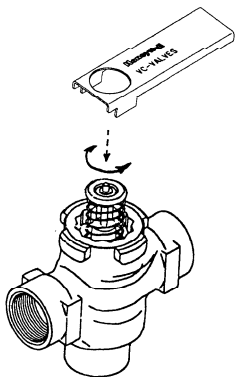

Figure 5 - Installing Cartridge
2. After soldering and valve has cooled, remove cartridge assembly from plastic bag, insert into the valve body and tighten down with enclosed wrench until it bottoms out. **DO NOT OVER TIGHTEN** (maximum torque is 40 in-lb). The top surface of the cartridge will be flush with the top edge of the body casting. See Figure 5.
3. Remove valve actuator by pressing up on the latch mechanism located directly below the red manual open lever with thumb (See Figure 5). Simultaneously press the actuator down towards the valve body with moderate hand force and turn the actuator counter-clockwise by 1/8 turn (45°). Lift actuator off the valve body.